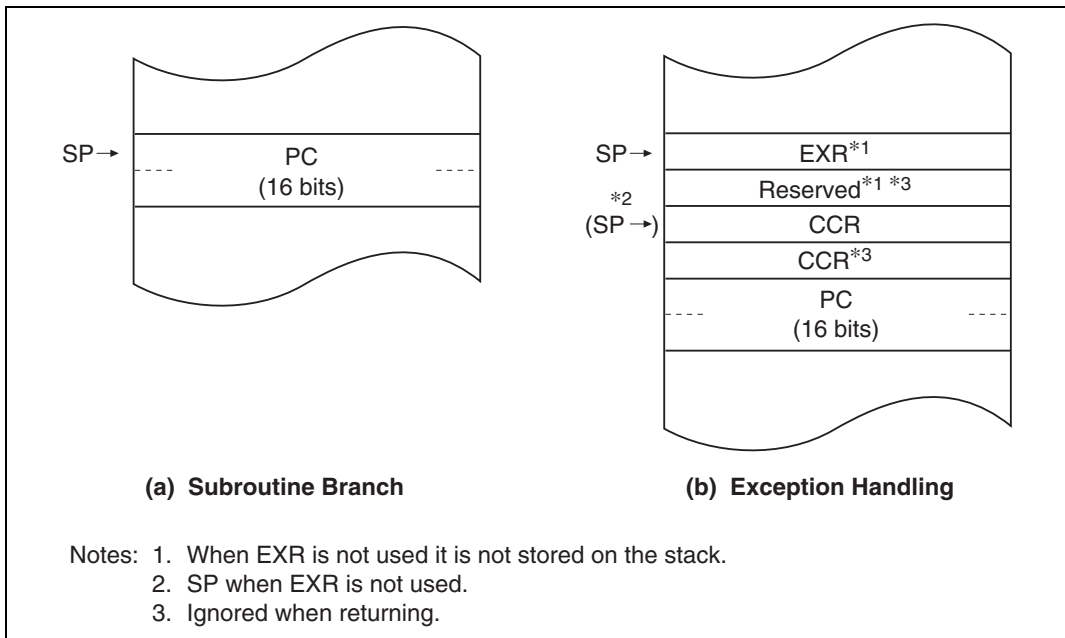

Figure 2.3 Stack Structure in Normal Mode
When the program counter (PC) is pushed onto the stack in a subroutine call, and the PC, condition-code register (CCR), and extended control register (EXR) are pushed onto the stack in exception handling, they are stored as shown in figure 2.3. When EXR is invalid, it is not pushed onto the stack. For details, see section 4, Exception Handling.